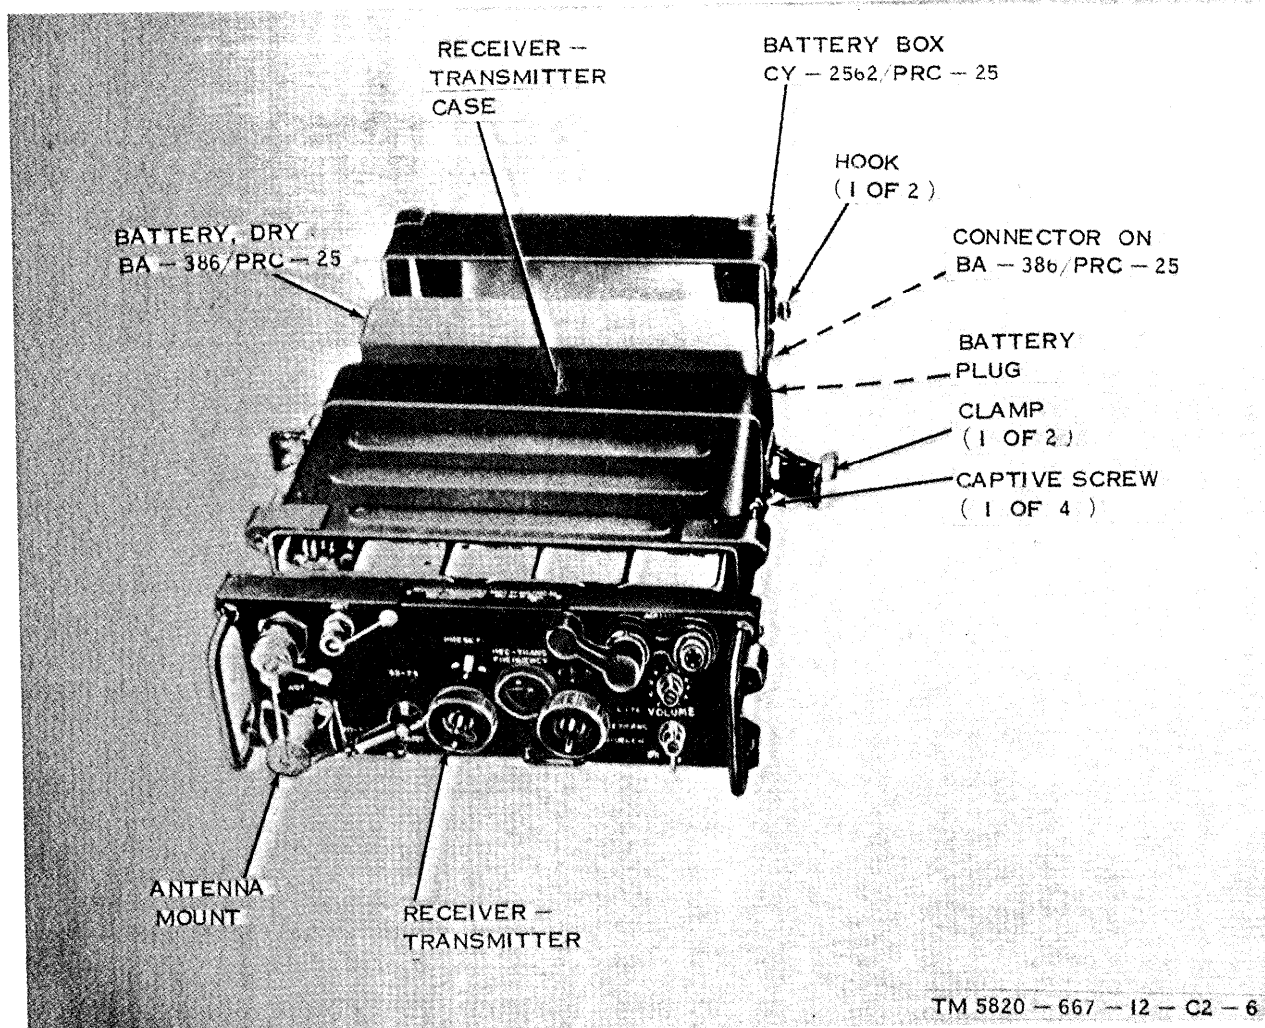

Figure 2-2. Installation of battery in RT-505/PRC-25.
a. The receiver-transmitter is held in the receiver transmitter case by four captive screws (fig. 2-2). The CY-2562/PRC-25 is attached to the receiver-transmitter case by two clamps. The complete RT-505/PRC-25, when assembled, is watertight. All controls are located on the front panel. A battery plug projects *from* the receiver-transmitter and mates with the connector of the battery.
c. A pressure relief valve (fig. 2-2) is installed in CY-2562/PRC-25 to prevent hydrogen gas (a byproduct of magnesium Battery, Dry BA-4386/U discharge action) from accumulating in the RT-505/PRC-25 case and possibly exploding. The valve is provided in accordance with
1-10. Additional Equipment Required (fig. 2-2)
(fig. 2-2)
install the battery in the RT-505/PRC-25 before proceeding (para 2-4, fig. 2-2).
POWER connector-----	Provides connection for external power supply when RT-505/PRC-25 is used as part of vehicular radio set configurations. When RT-505/PRC-77 uses battery in CY-2562/PRC-25 (fig. 2-2), the radio will not operate if the cover for the POWER connector is not in place.